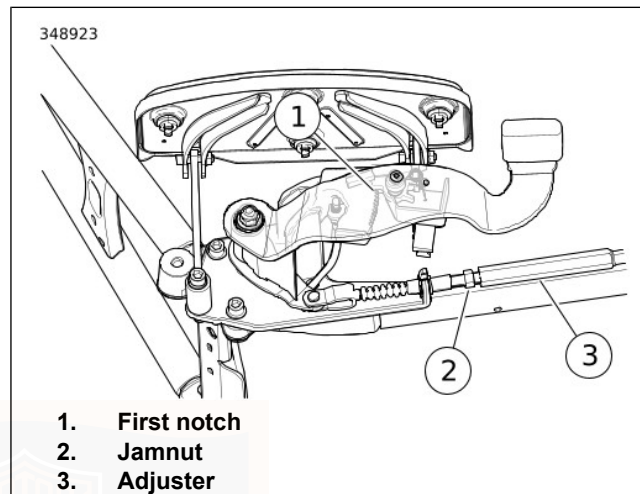

Figure 64. Parking Brake Adjustment
3. See Figure 64. Pull the boot back. Loosen jamnut.